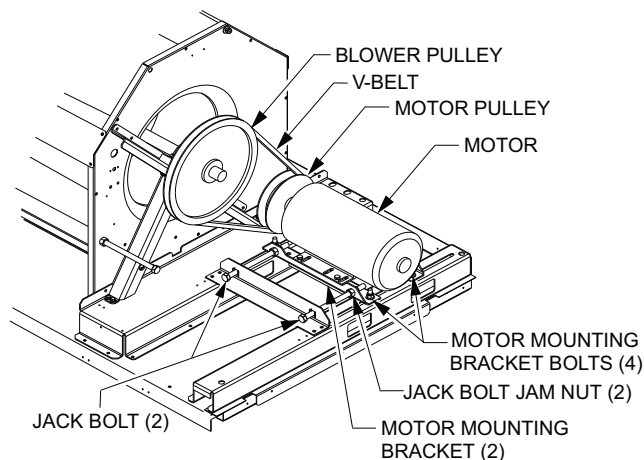

Fig. 6 — Replacing the V-Belt
1. Loosen the four front and rear motor mounting plate bolts (see Fig. 6).